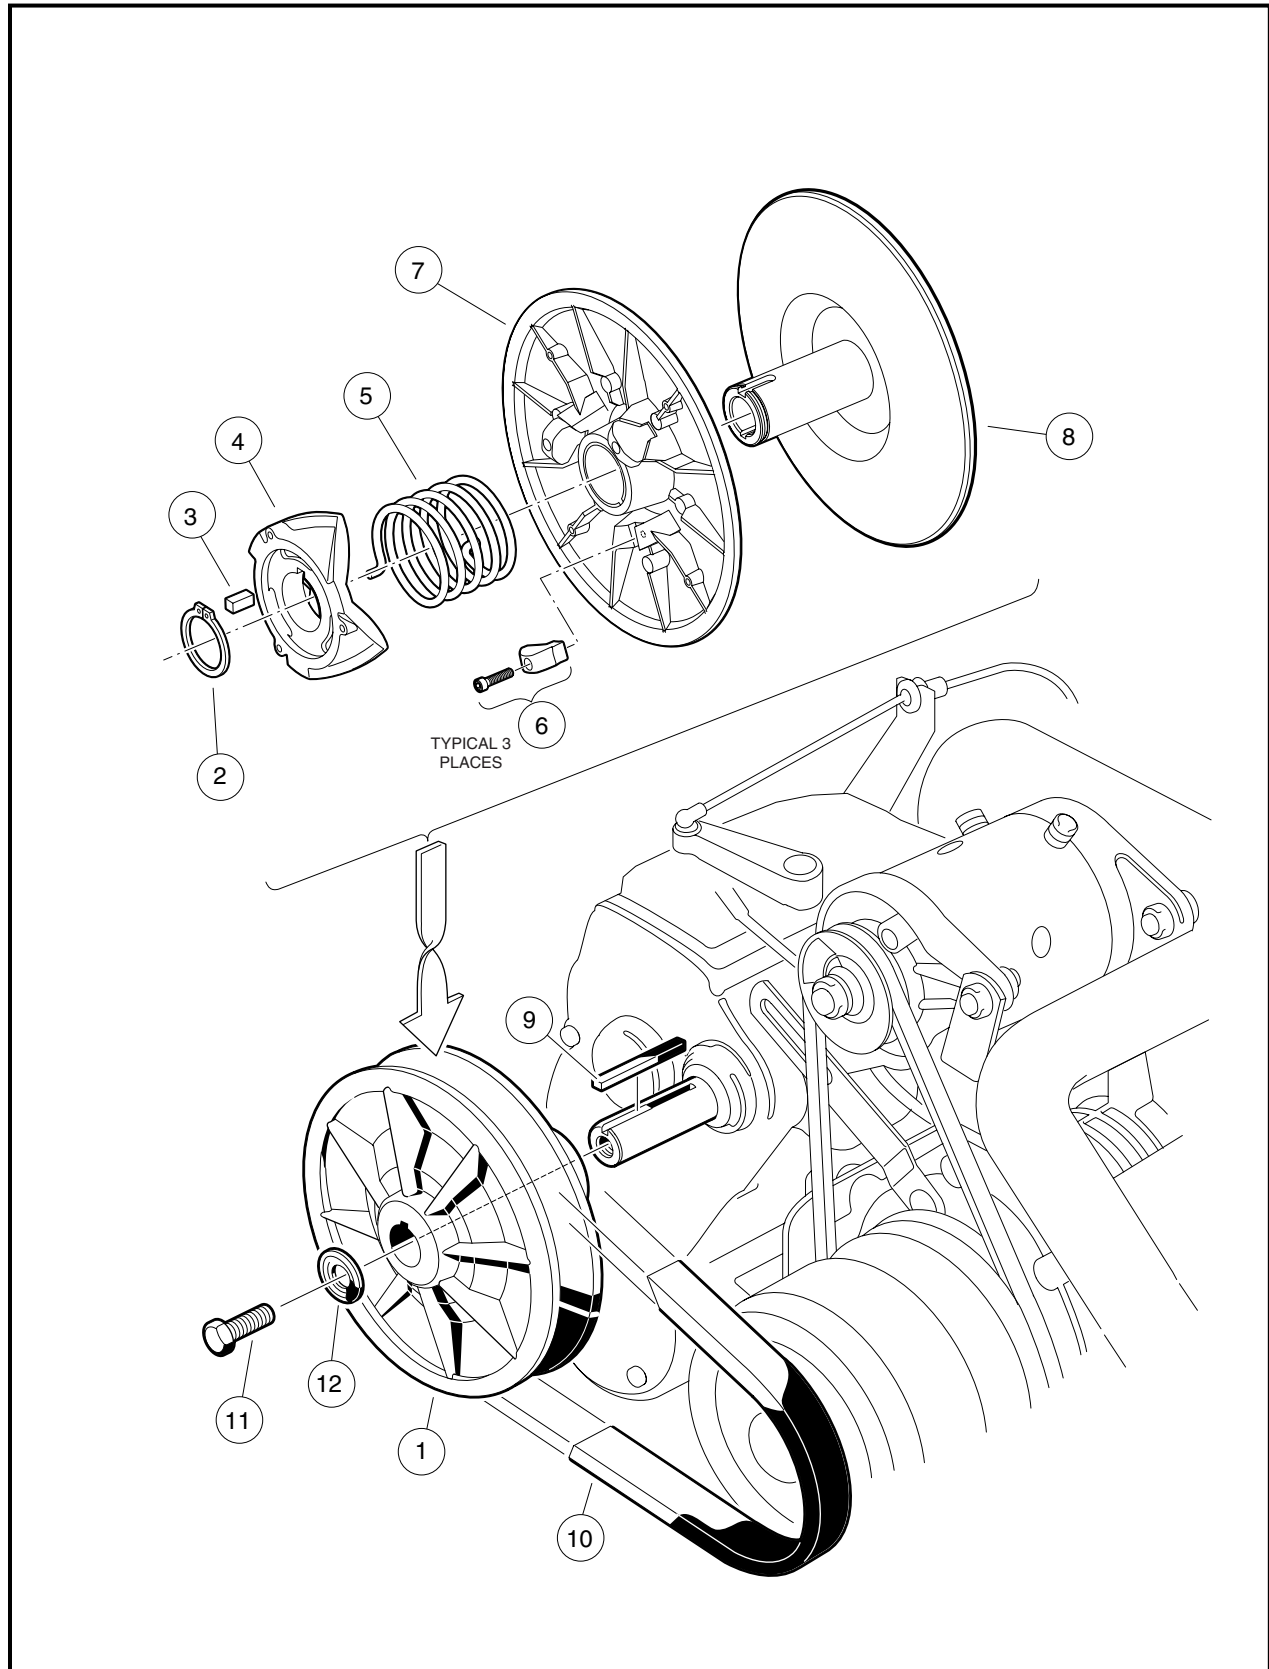
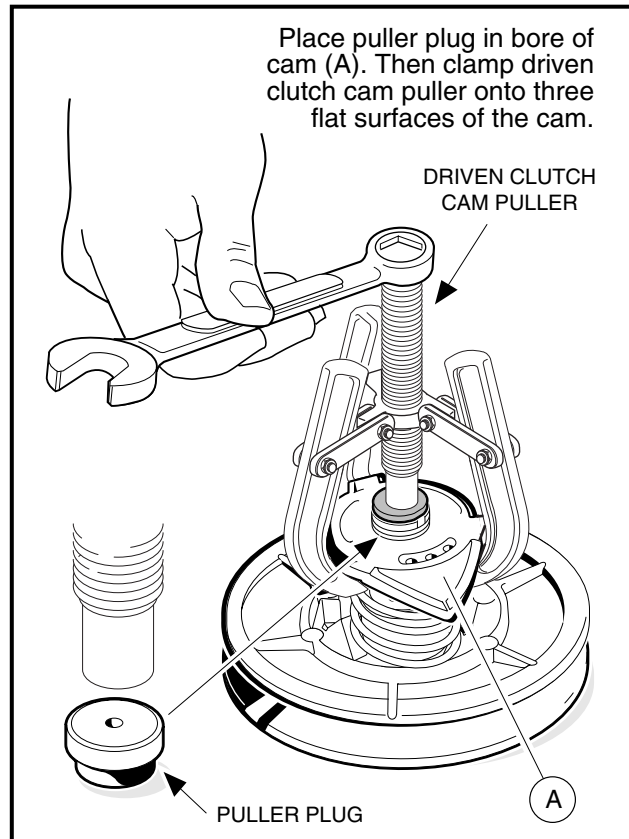

Figure 17-16 Driven Clutch Assembly
Figure 17-18 Driven Clutch Disassembly
5. Remove the bolt (11) and mounting washer (12) from the clutch shaft (**Figure 17-16, Page 17-14**).
7. Leave the key (9) in the keyway (**Figure 17-16, Page 17-14**).
2. Insert a puller plug (CC 1014507) (**Figure 17-18, Page 17-15**) into the shaft bore and use a driven clutch cam puller (CC 1014508) to remove the cam (4) from the fixed face shaft (8). Retain the key (3) (**Figure 17-16, Page 17-14**).
3. Remove the spring (5) (**Figure 17-16, Page 17-14**).
4. Slide the moveable face (7) off the fixed face shaft (8) (**Figure 17-16, Page 17-14**).
1. Inspect the cam (4) for excessive wear. Replace it if necessary (**Figure 17-16, Page 17-14**).
2. Inspect the drive buttons (6) for excessive wear. Replace if necessary. To remove the drive buttons, remove the socket-head cap screws and then the buttons.
1. Place the three drive buttons (6) in position. Apply one drop of Loctite® 222 to each of the socket head cap screws and then install and tighten them to 8 in-lb (0.9 N·m) (**Figure 17-16, Page 17-14**).
2. Slide the moveable face assembly (7) onto the fixed face shaft (8).
3. Place the end of the spring (5) into hole in the moveable face assembly.
4. Install the key (3) into the keyway of the fixed face assembly (8) shaft.
5. Holding the cam (4) in position for assembly on the shaft, install the other end of the spring (5) into the center spring hole of the cam. Rotate the cam until the keyway is aligned with the key (3) on the fixed face assembly, and then start the cam onto the shaft approximately 1/4 to 3/8-inch (6.3 to 9.5-mm).
- 5.1.3. Install the retaining ring (2) (**Figure 17-16, Page 17-14**). **See following NOTE.**
1. To install the driven clutch, reverse the removal procedure. Make sure that the washer (12) is mounted with the flat portion of the washer against the driven clutch as shown (**Figure 17-16, Page 17-14**). Secure with a *new* bolt (11). **See following NOTE.**
**NOTE:** The bolt (11) must be replaced with a new bolt (CC 102242101) containing a locking patch that will prevent the bolt from loosening.
2. Tighten the bolt (11) to 14 ft-lb (19.0 N·m).